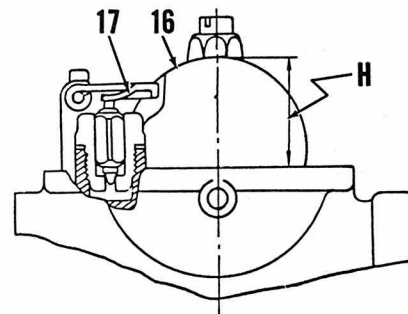
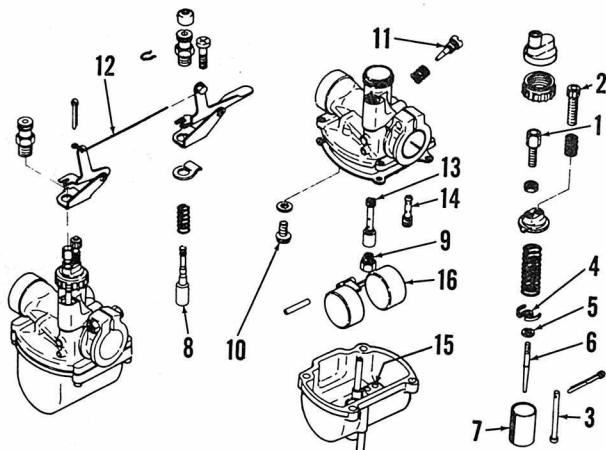

Fig. Y8-2—Float level (H) is adjusted by bending tang (17).
Fig. Y8-1—Exploded view of Mikuni VM carburetor. Starting valves for both carburetors are connected with rod (12).
**CARBURETORS.** Two Mikuni VM carburetors are used. Idle speed should be set at approximately 1,200 RPM by turning adjusters (2—Fig. Y8-1). Make sure that throttle slides (7) both stop at exactly the same position and exhaust pressure is the same for both cylinders. Idle mixture
Float level (H—Fig. Y8-2) should be 1 inch (25.5MM) and is adjusted by bending tang (17) on float. Refer to Fig. Y8-1 and the following standard specifications:
- Main jet (9) ..... #160 or 170
- Pilot jet (14) ..... #30
- Needle jet (13) ..... 0-2
- Valve needle (6) ..... 5D1
- Clip (5) in second or third groove from top of needle (6).
Before adjusting the pump control cable, it is important that the throttle cable guides (1—Fig. Y8-1) are correctly set. To adjust the throttle cable guides, turn the idle speed adjusters (2) all the way down, then synchronize cable guides (1) so that both throttle slides (7), begin to move at exactly the same time when the hand grip is turned. The throttle cables should have approximately  $\frac{1}{8}$ -inch free play after they are synchronized. Adjust the idle speed to 1,100-1,300 RPM by turning both idle adjusters (2). Make cer-